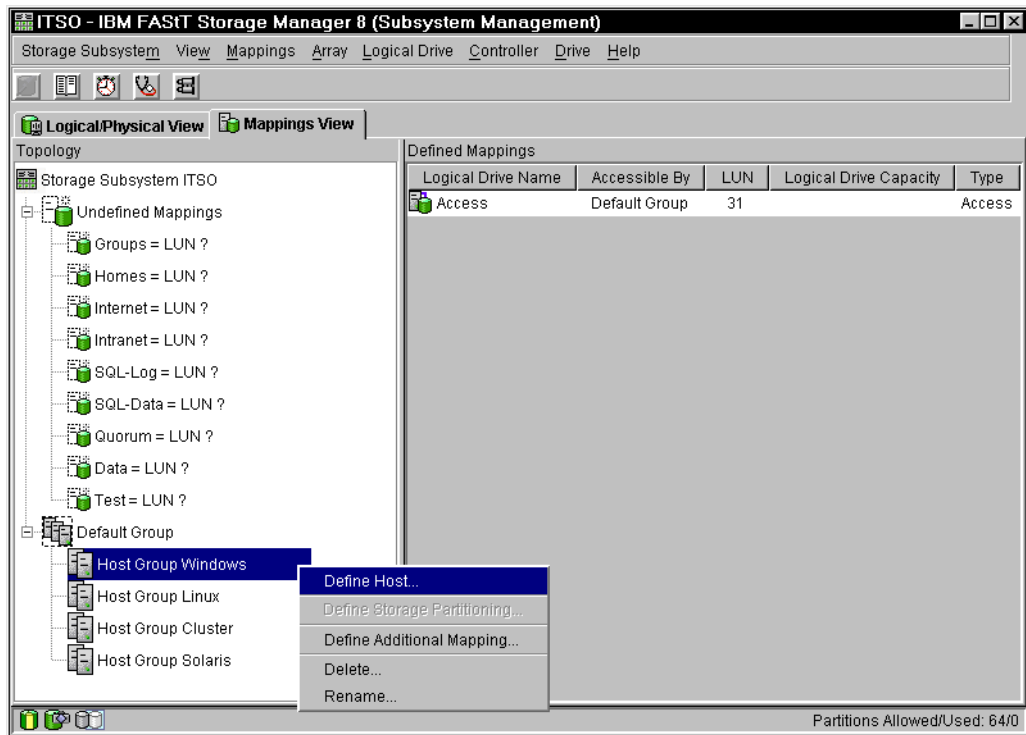

Figure 4-38 Selecting Define Host
- The hosts groups are defined and the hosts in these groups can now be defined according to the example in Table 4-2 on page 86. As shown in Figure 4-38, highlight the group for which you want to add a new host. Right-click and choose **Define Host**.